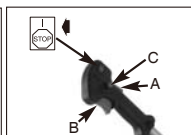

Fig. 9B
1. Press ON/OFF switch to the "RUN (I)" position (Fig. 9B).
3. Set throttle lock (C): Press the lockout switch (A) down and then holding trigger (B) at partially open position, press down and hold throttle lock (C). Release throttle trigger (B). Throttle trigger (B) will now remain in the partially depressed position (Fig. 9B).